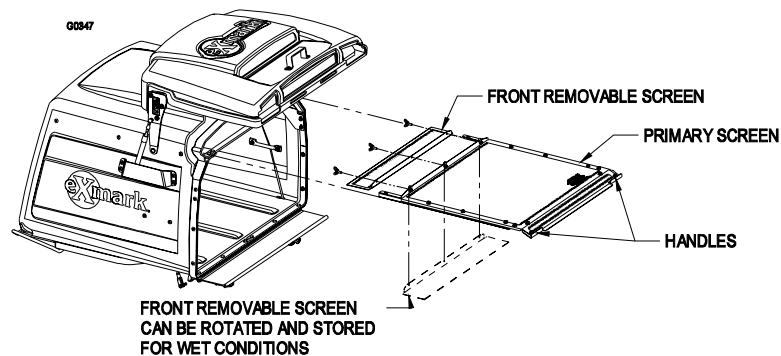

FIGURE 3
- a) Screen may be removed by firmly lifting screen handles. See Figure 3.